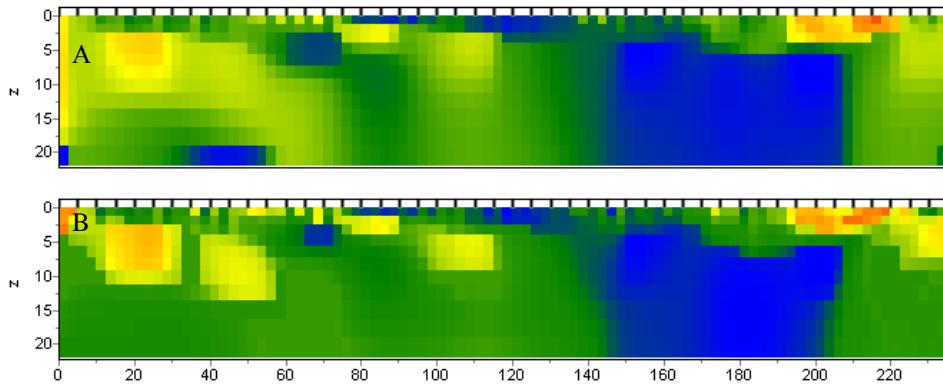

Fig. 46. Geoelectric models as a result of **Focused** inversion with **Sharpness** parameter: 0.8 (A) and 0.2 (B).
**Sharpness** – defines ratio between minimization of causative body volume (0) and construction of piecewise-smooth distribution (1) (fig. 46). Value of this parameter is chosen empirically (0.7).